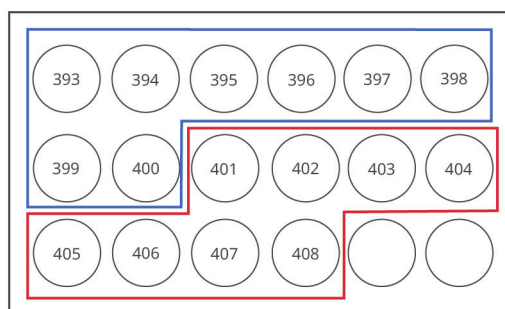

Figure 4 UDB PF Adapters (16 RXN) layout and combination instructions
- UDB Adapter-393 to UDB Adapter-400 (see the blue box in Figure 4)
- UDB Adapter-401 to UDB Adapter-408 (see the red box in Figure 4)